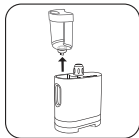

fig.12
1. Ensure that the steamer is unplugged. Remove the water tank from the base of the appliance by pulling the handle upwards. (fig.12)